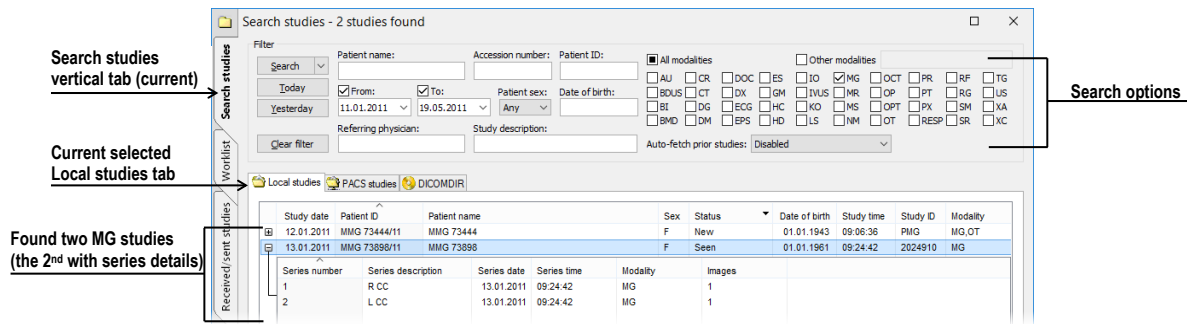

Figure 451 – Opened patient study from the Local studies
- Finding and opening a required study stored in the local studies of TomoCon (see **Figure 451**) by taking the following steps: